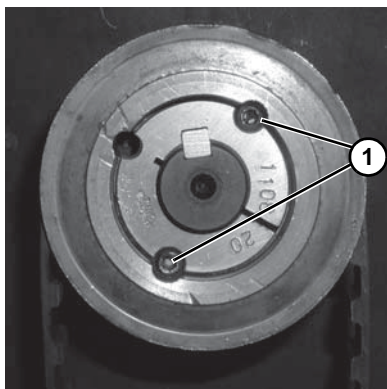

Figure 12
8. Tighten driven pulley taper-lock screws (**Figure 12, item 1**).